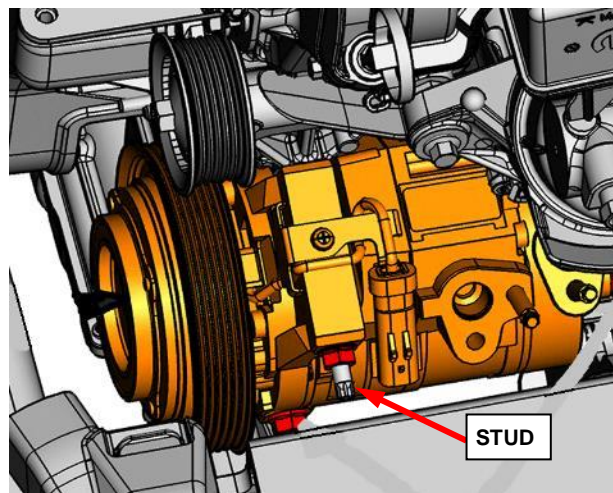

Figure 15 – A/C Compressor Fasteners
21. Remove the stud from the A/C bracket (Figure 15).
37. Install the stud to the A/C bracket (Figure 15). Tighten to 11 N·m (8 ft. lbs.).